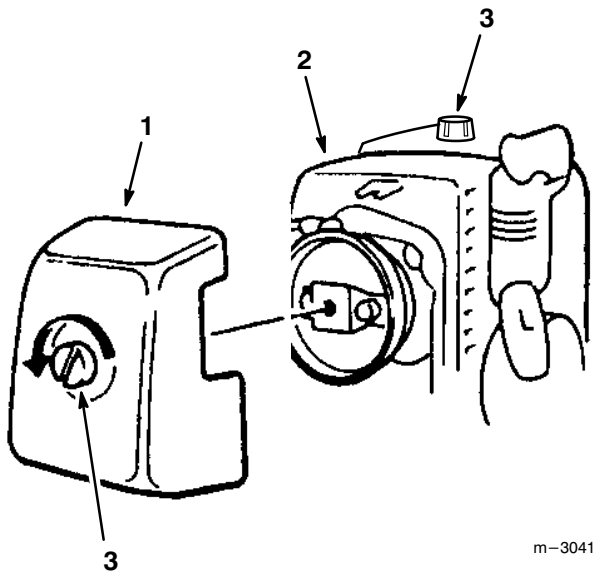

Figure 17
1. With the engine at ambient (room) temperature, remove the socket head screw holding the muffler cover, then remove the air cleaner cover (Fig. 17).
2. Loosen the knob and lift off the cylinder cover (Fig. 17).
9. Reinstall the cylinder and air cleaner covers (Figs. 17).
1. With the engine cool (ambient or room temperature), remove the air cleaner cover (Fig. 17).
4. Reinstall the cylinder and air cleaner covers (Figs 17).
1. With the engine at ambient (room) temperature, loosen the knob and remove the air cleaner cover (Fig. 17).
8. Reinstall the cylinder and air cleaner covers (Fig. 17).